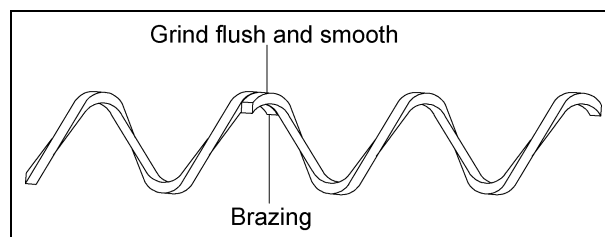

Figure 5X Brazing the Auger
The auger should be handled with great care. Do not install the auger until the kinks have been removed. The kink may be removed by straightening the auger. A kink may cause extensive wear on the system and premature part replacement. In the event that the kink cannot be removed by straightening, the kink must be cut-out and the auger welded. (See brazing recommendations in Figure 5X on Page 28.)
2. Position the auger in an angle iron and clasp it securely to align it for brazing. (See Figure 5X.)